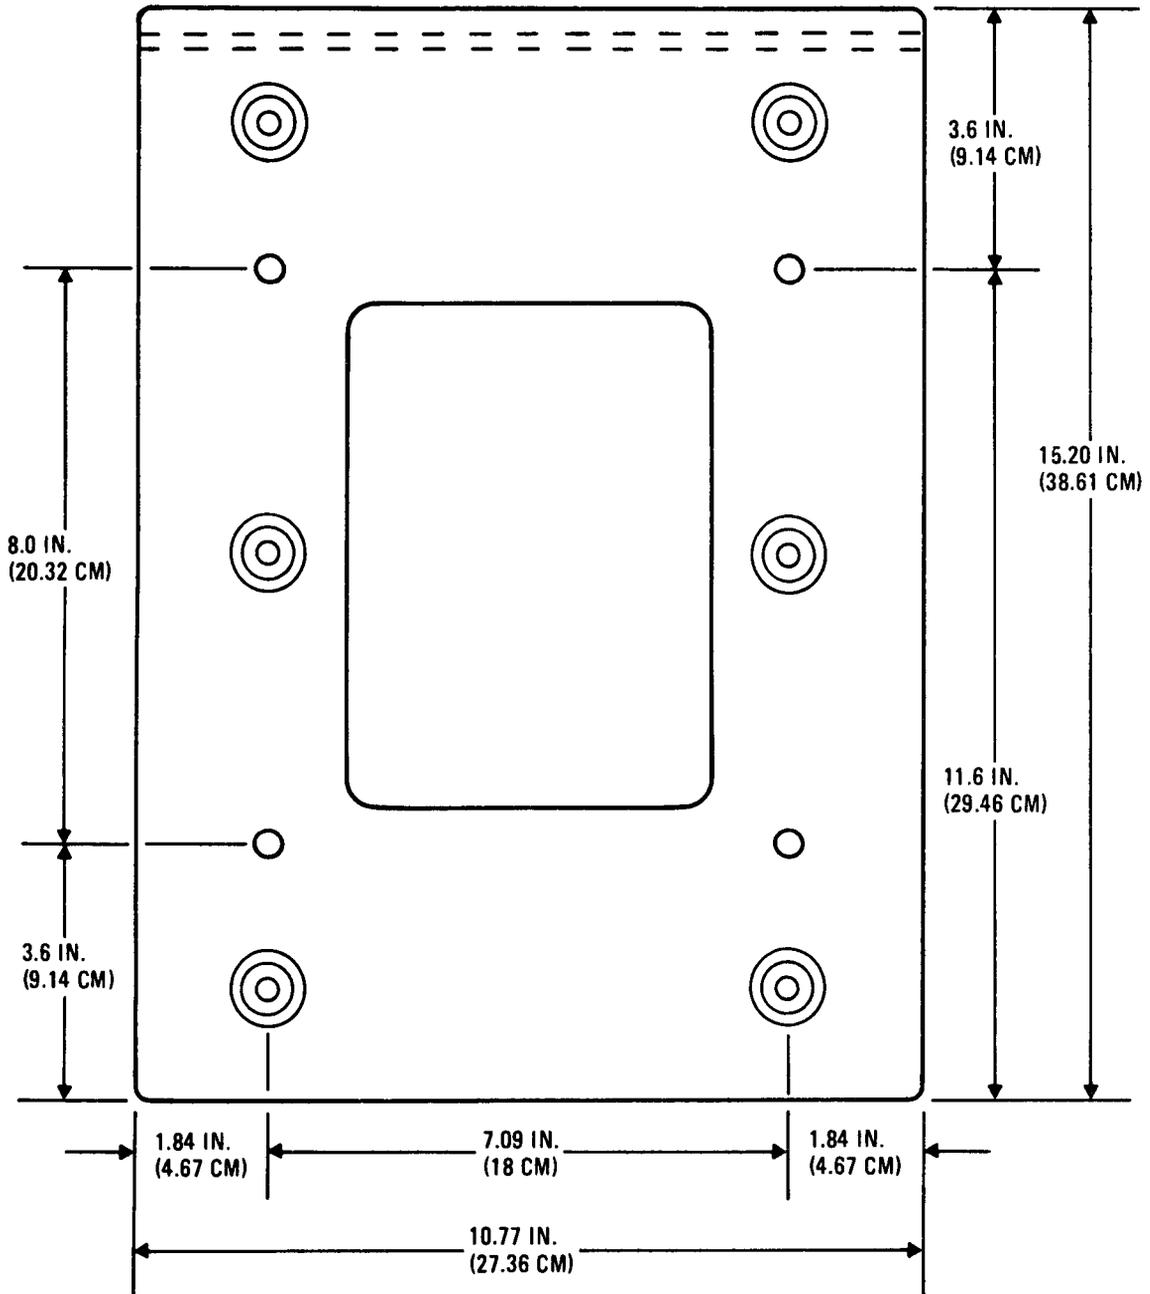

Figure 1-7, Antenna Coupler Mount MT-4495/GRC-193 Lower Tray Assembly Dimensional Data
2. Refer to Figure 1-7. Mark off the four mounting hole centers on the mounting surface.